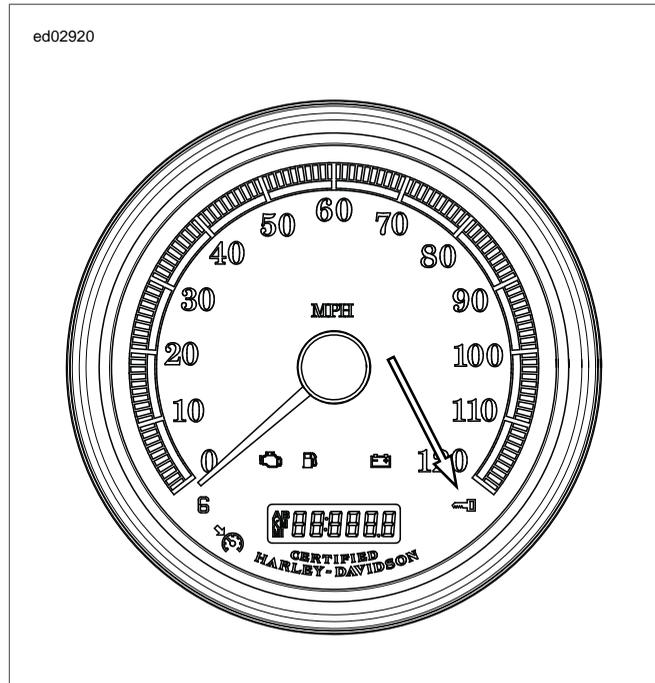

Figure E-8. Security Lamp (Key Icon)
- See Figure E-8. When the Ignition Switch is turned ON, the security lamp will illuminate for approximately four seconds and then turn off.